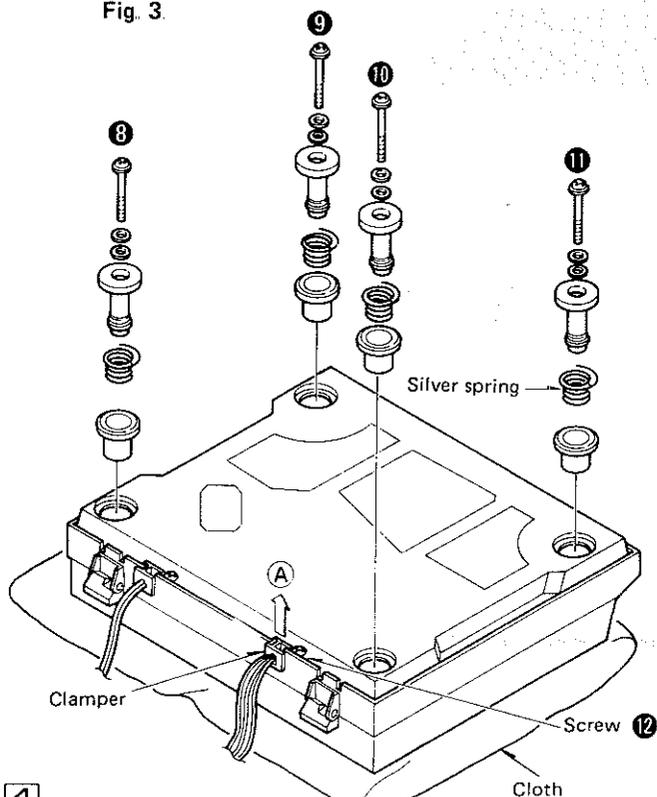

Fig. 3
6. Close the dust cover, and turn over the unit on a soft cloth taking care not to damage (Fig. 3)
7. Remove the 4 audio insulator setscrews (Fig. 3 : ⑧ ~ ⑪).
8. Remove the clamber setscrew (Fig. 3 : ⑫) and slightly lift the bottom board. Then, remove the phono output clamber in the direction of the arrow (A).
When replacing the audio insulator, make sure that the silver spring is in regular position as shown in Fig. 3.